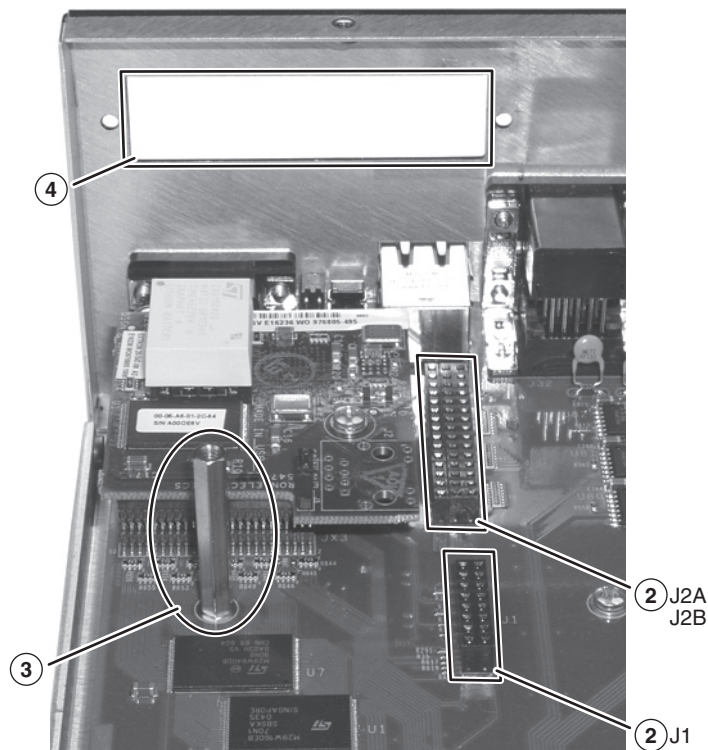

Figure 7 — Output board installation location
3. On the main board (figure 7), locate connectors J1, J2A, and J2B (②); the standoff (③); and the rear panel connector port (④).